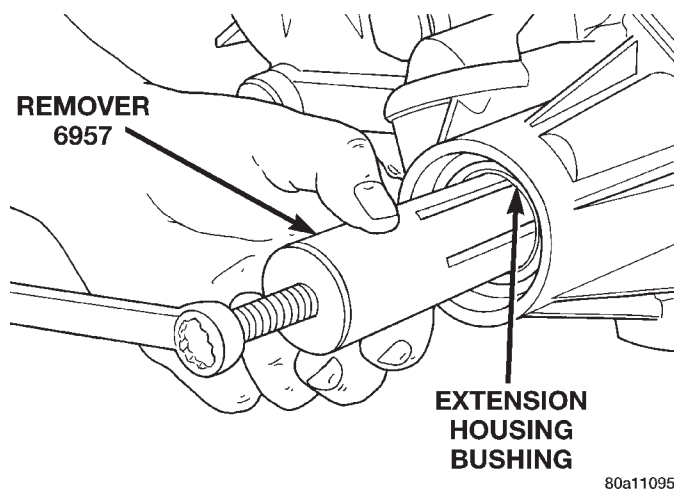

Fig. 35 Bushing Removal—Typical
(1) Remove overdrive housing yoke seal.
(2) Insert Remover 6957 into overdrive housing. Tighten tool to bushing and remove bushing (Fig. 35).